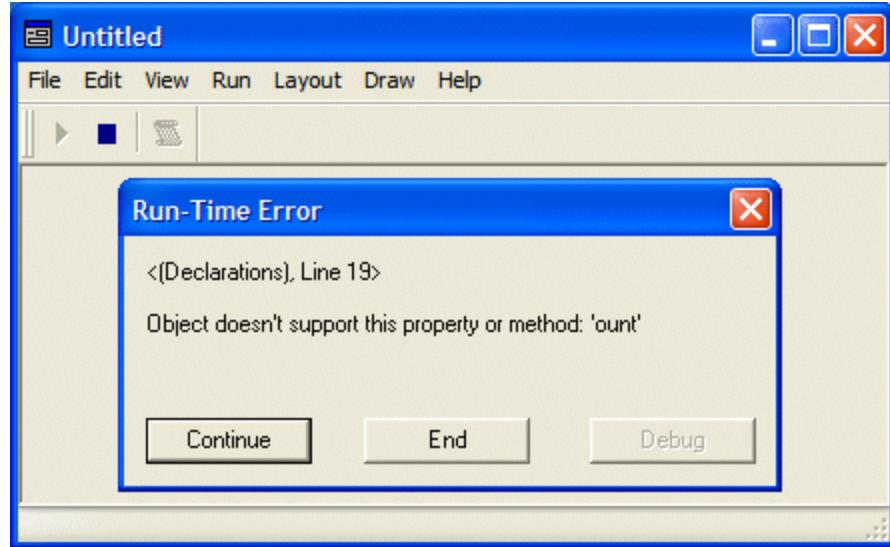

Figure 4-6. The Run-Time Error dialog.
- 3) Observe the resulting **Run-Time Error** dialog (Figure 4-6). This tells you what your error is and presents you with two options: **Continue** or **End**.